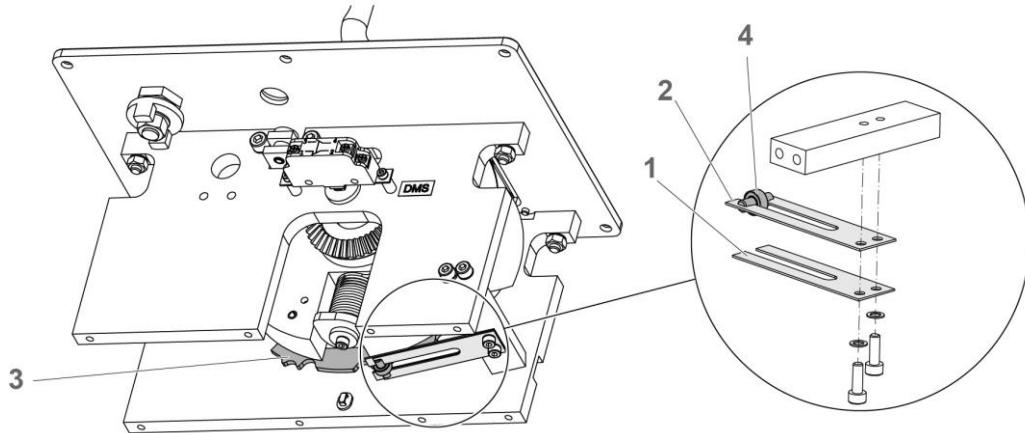

Figure 5-2: Exchange Wear and Tear Parts and Detent Mechanism
1. Loosen the two fixing screws to remove detent spring short (1) and detent spring complete (2). See Figure 5-2.